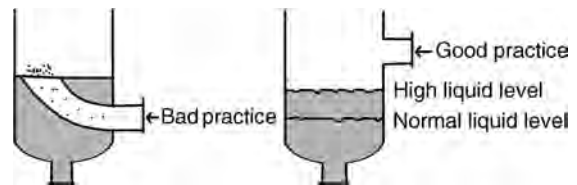

FIGURE 16.33 Practices of location of bottom feed or reboiler return lines.
- Figure 16.33 illustrates good and bad practices with such lines.